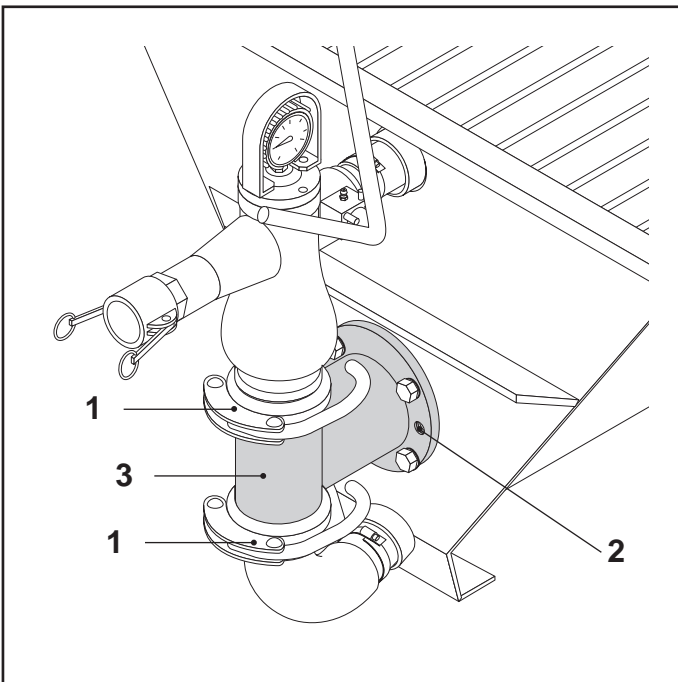

FIG.22
- 6) Red intake valve body (optional) (FIG.22-REF.3).
- Release the two joints (FIG.22-REF.1).
- Loosen the 4 screw fasteners at the hopper and replace the valve body: to ease replacement, tighten two screws into the additional threaded holes (FIG.22-REF.2).
- Mount the dedicated valve body (FIG.22-REF.3).